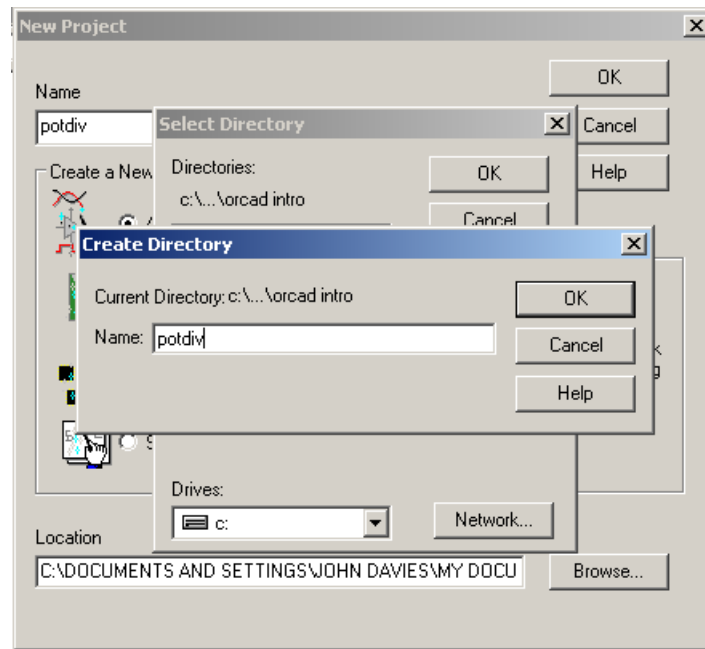

Figure 2: Dialogue boxes to create a directory for a new project.
3. Create a directory for the new project if you have not done this already. See figure 2.